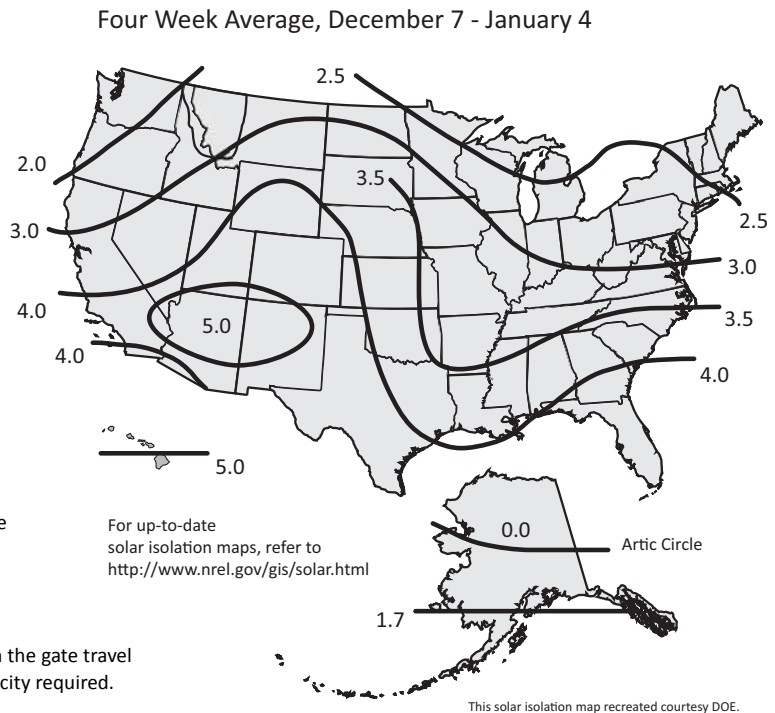

Figure 2-7.
- Sun hours at the site. “Sun hours” relate to the amount of energy delivered by the sun and absorbed by the solar panels. It is NOT the same as the number of daylight hours available at the site. See Figure 2-7.